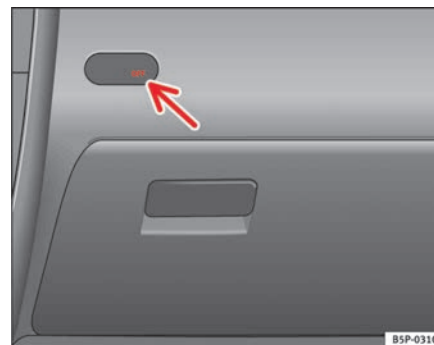

Fig. 27 Warning lamp for deactivated passenger airbag in centre console
- Check that the warning lamp “OFF” in the instrument panel ⇒ fig. 27 remains lit when the ignition is switched on ⇒ ⚠.
⇒ page 44, fig. 27 *not* light up when the ignition is switched on